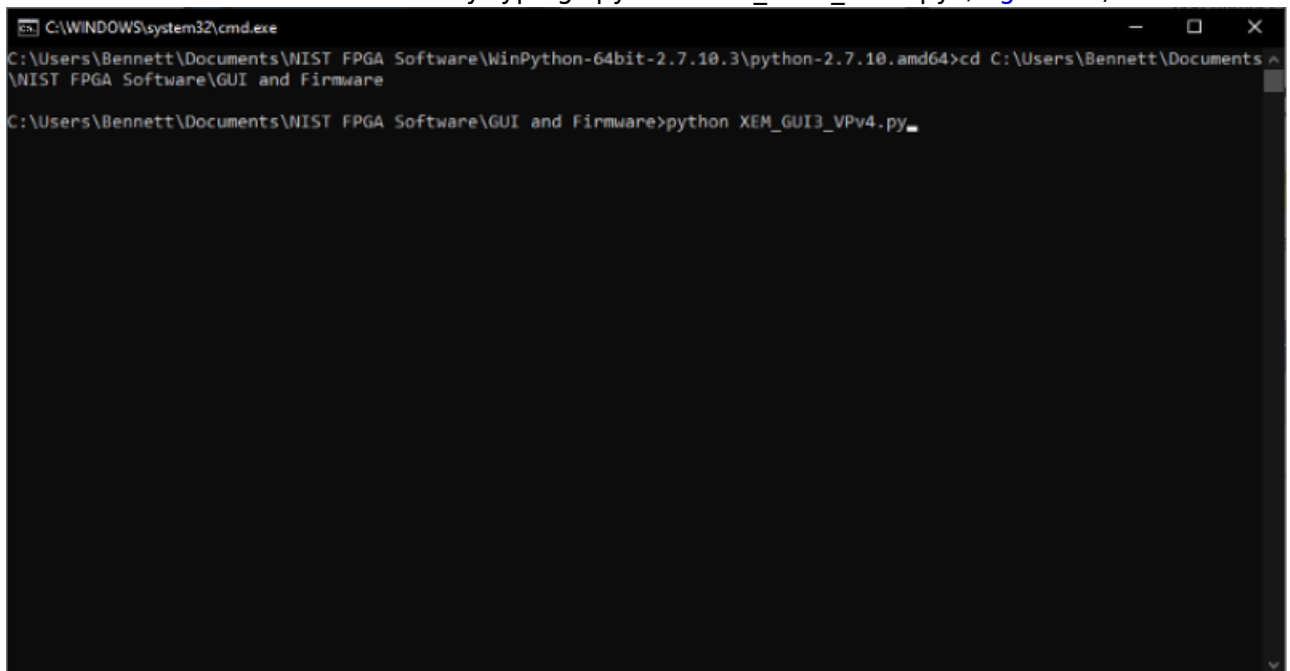

Fig. 10: Start FPGA GUI from Terminal
2. Start the SLICE-FPGA control GUI by typing "python XEM\_GUI3\_VPv4.py", figure 10).